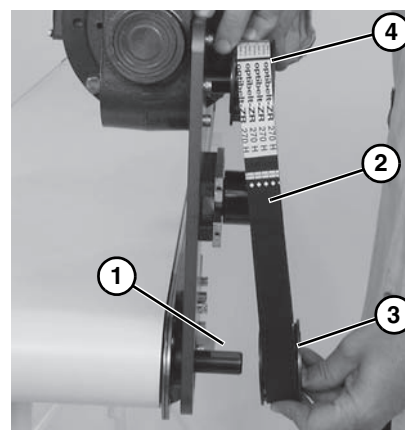

Figure 7
5. Install key (**Figure 7, item 1**).
6. Wrap timing belt (**Figure 7, item 2**) around driven pulley (**Figure 7, item 3**) and drive pulley (**Figure 7, item 4**). Install driven pulley onto conveyor shaft.